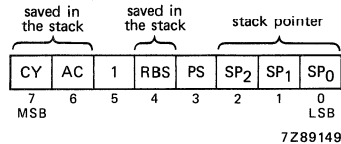

Fig. 20 Program status word.
**Program status word** (see Fig. 20)